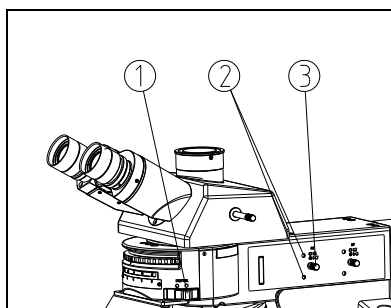

Fig.38
(1) Rotate the filter holder, turn the fluorescence filter B or G into the light path. (If there is no fluorescence filter B or G, use another fluorescence filter.) (See Fig. 38)
(2) Rotate the objective nosepiece, to turn the 10X objective into the light path.
(3) Push the fluorescence flashboard block ① to the position "O", to open the light path.
(4) Focus the slide on the stage, adjust it to be clear.
(5) Pull the field diaphragm adjusting pole ③ to the outmost to open the field diaphragm to the smallest, while push it to the innermost to the largest.
(6) Observe through eyepiece to find image of field diaphragm.
(7) Adjust two field diaphragm centering screws ② on the side of illuminator by a inner hexagon spanner, to move the image to the center of view field.(See Fig. 38)